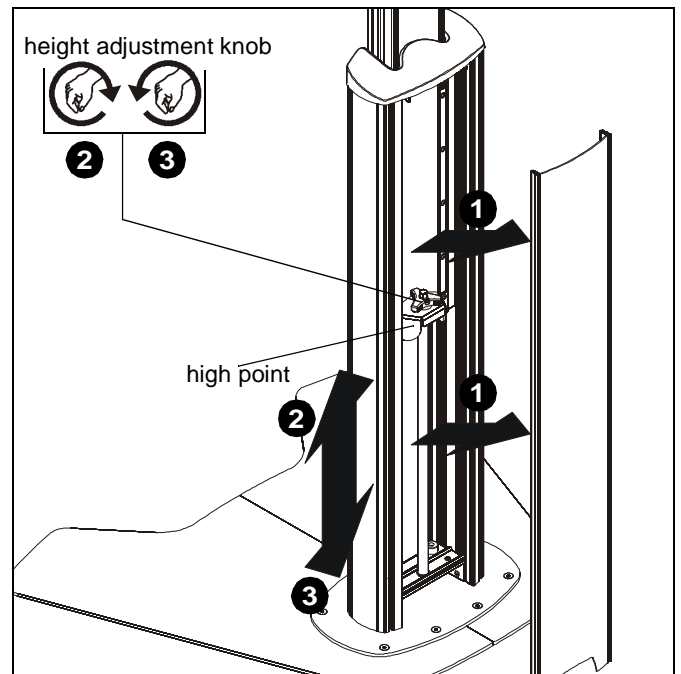

Figure 11
- Remove cable cover (G) to expose height adjustment knob.
- Turn height adjustment knob clockwise to raise display. (See Figure 11)
WARNING: Do not attempt to raise or lower the adjustment carriage beyond its upper or lower limit. High and low points are shown in Figures 11 and 12.